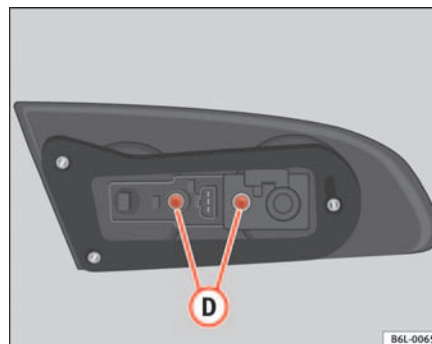

Fig. 164 Access to the lamp
- Unscrew the bolts **(D)** ⇒ fig. 164 and take the lamp holder out.